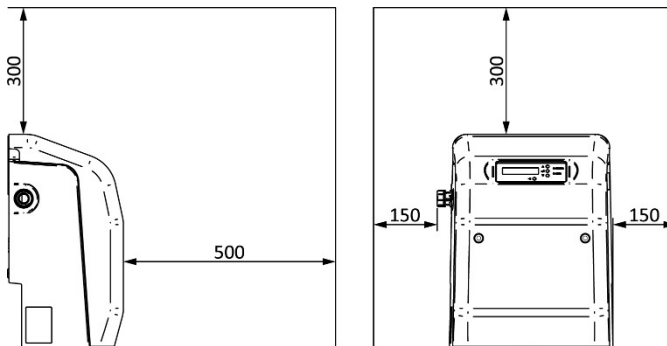

Fig. 2
- 4.12 **Access and minimum clearance requirements:** For emergencies and maintenance the unit must be easily accessible and have the minimum clearance around it as laid out in Fig. 2. Additional access to the front of the unit will be required to operate the keypad and view the display.